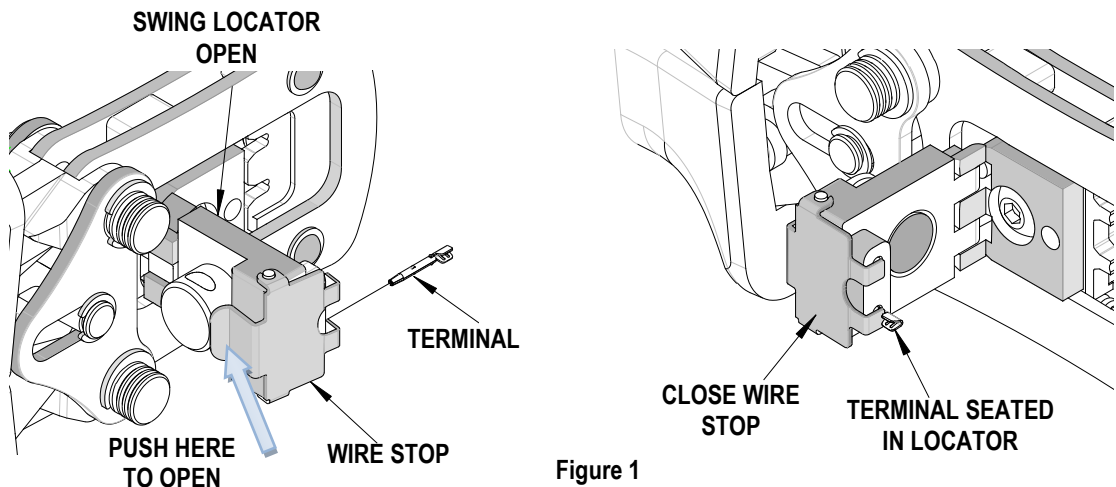

Figure 1
3. Press down on the wire stop on the locator. Insert the terminal into the nest opening as shown in Figure 1.